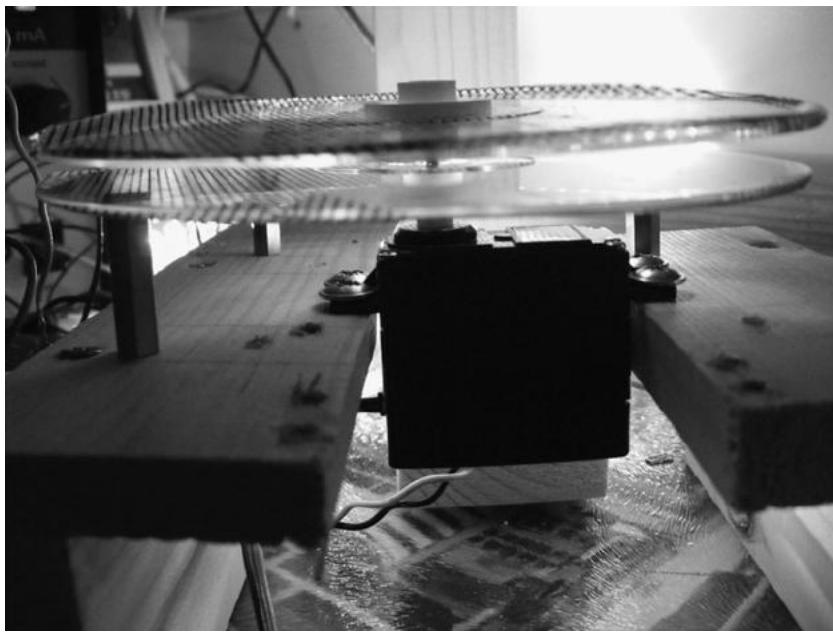

Figure 12-19. Side View of the Moire Wheel Rig
- A long thin bolt that can screw into the center hole on the motor shaft. It needs to be a couple of inches long ideally. This bolt is needed to couple the drive shaft of the motor to the uppermost of your plastic discs. You will also need some way to secure your plastic disc to the center bolt. In my prototype I used two of the supplied horns that came with the servo motor. Using a nut, I was able to secure the disc to the center bolt (see Figure 12-19).